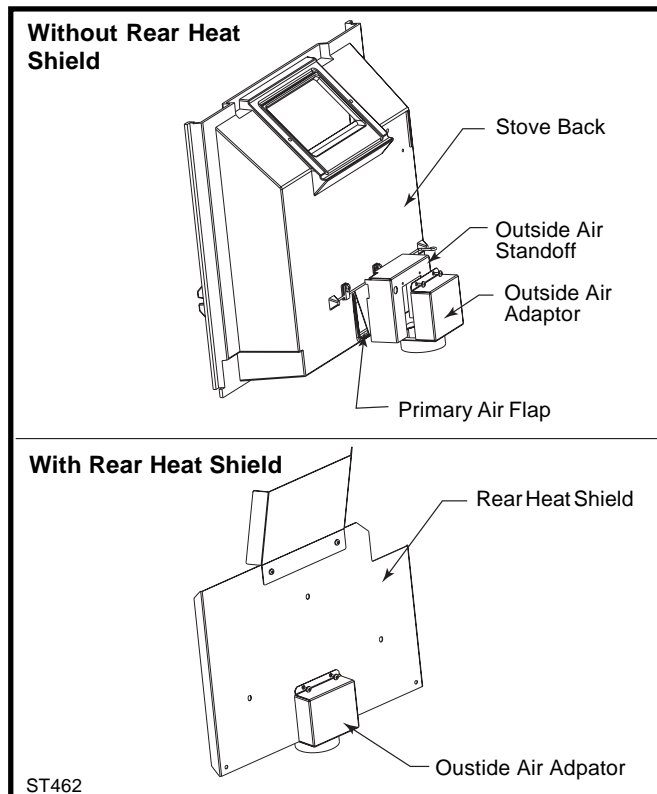

Fig. 26 Outside Air Adaptor options.
1. Engage the Adaptor against the Air inlet opening in the Rear Heat Shield. Align clearance holes in the adaptor with pilot holes in the Rear Heat Shield as shown at the bottom of Figure 26.
2. Engage the Adaptor against the air inlet opening in the Outside Air Standoff. Align clearance holes in the adaptor with pilot holes in the Standoff as shown at the top of Figure 26.